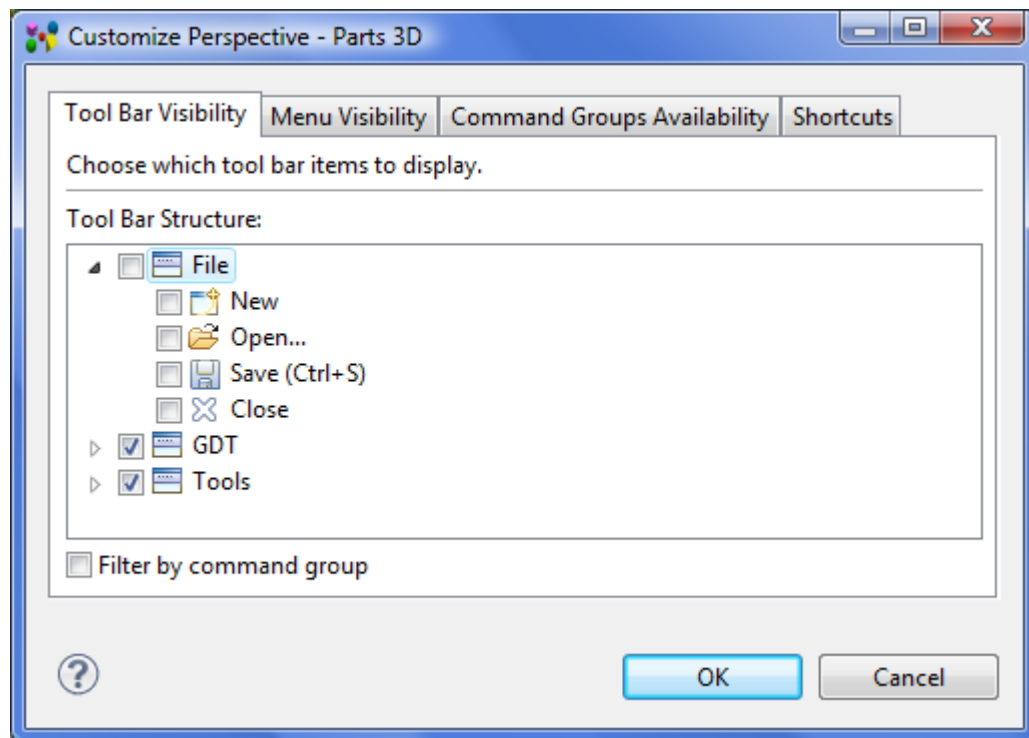

Figure 1. Customize Perspective Parts 3D dialogue window with active Tool Bar Visibility panel
- Select the **Customize** menu item from the appeared context sensitive menu. The **Customize Perspective <current perspective name>** dialogue window appears (see Figure 1):